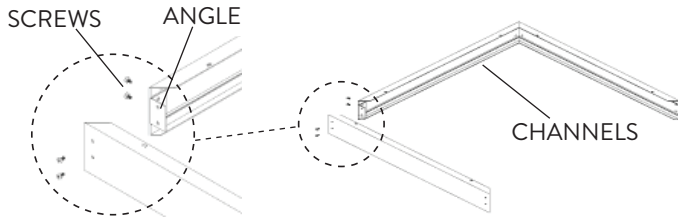

FIG. 9
- 1 Use Screws to fasten the Angles to the corners of the Channel frame. Start off by assembling three of the Channels together (Fig. 9).